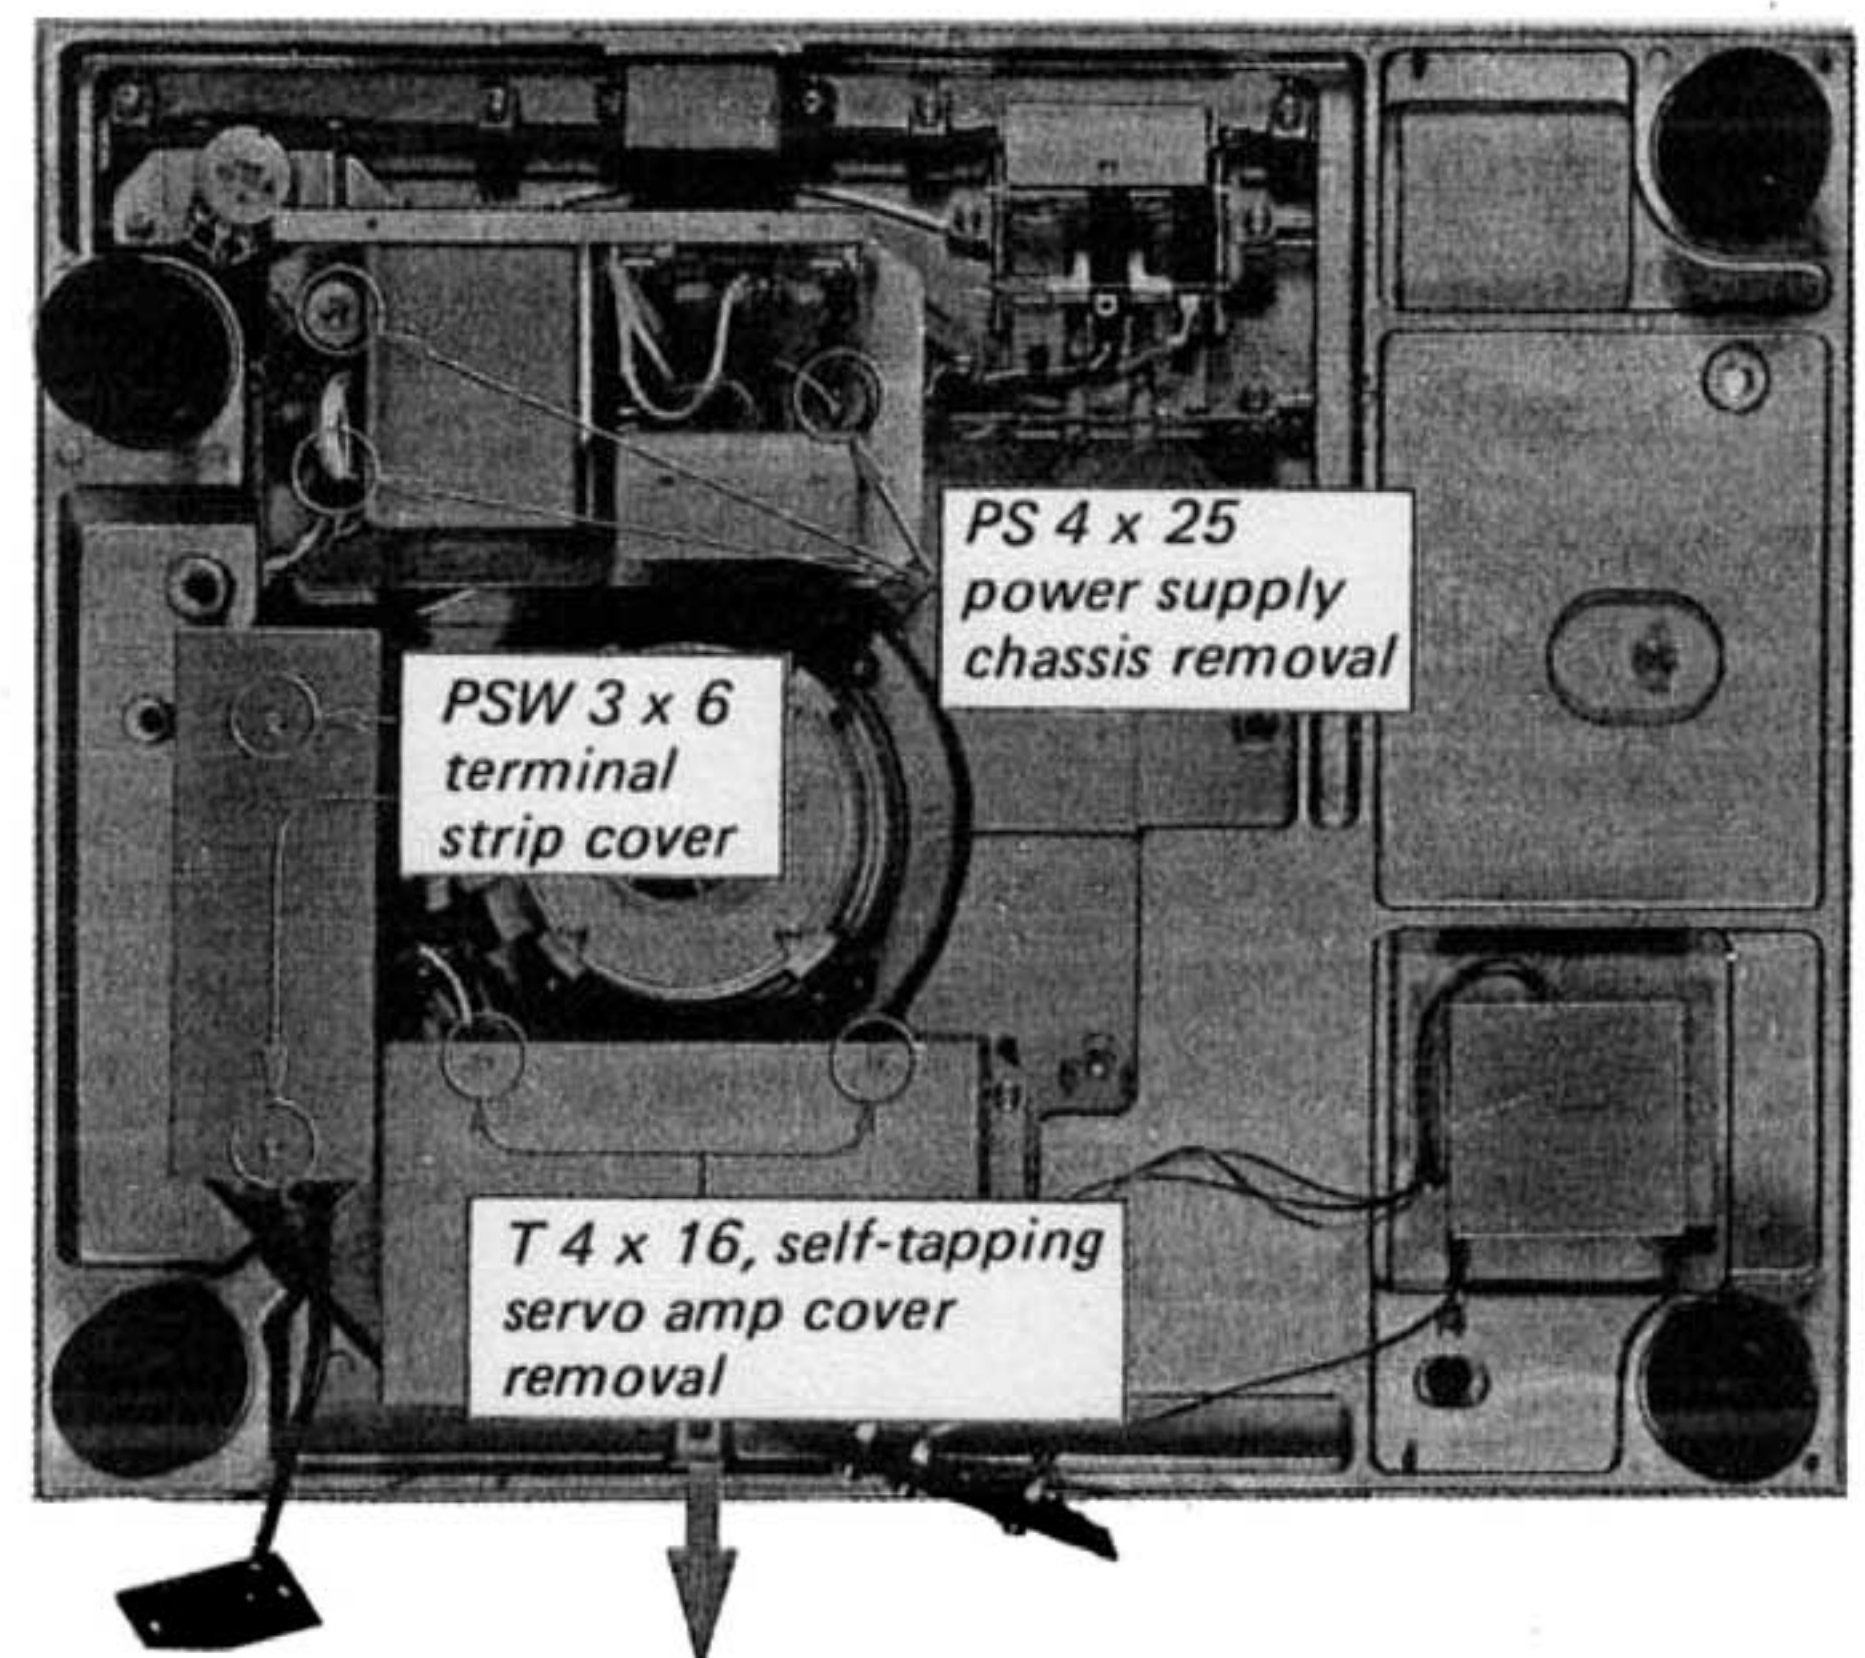

Fig. 2-4. Bottom view
2. Remove the two self-tapping screws (T 4 x 16) shown in Fig. 2-4, and then slide it in the direction shown by the arrow as illustrated. This frees the cover.
- 2. Remove the three screws (PS 4 x 25) shown in Fig. 2-4. This frees the power supply chassis.
- 2. Remove the two screws (PSW 3 x 6) securing the terminal strip cover as shown in Fig. 2-4.